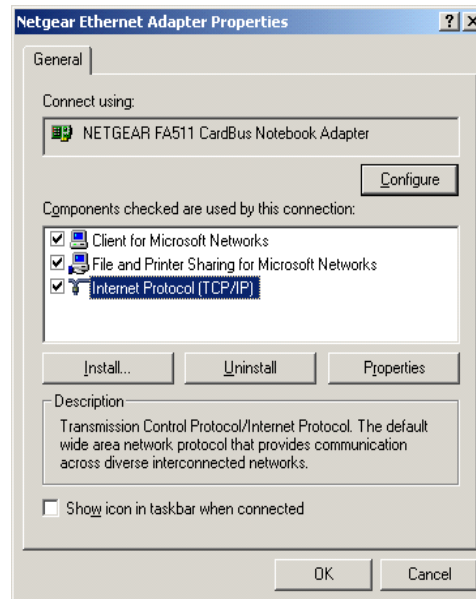

Figure A-1.6
7. Select **OK**. The **Ethernet Adapter Properties** dialog box displays (see Figure A-1.6).